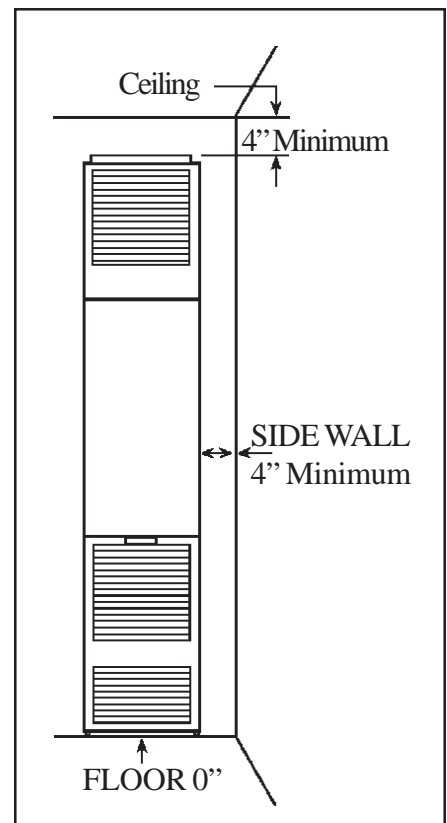

FIGURE 1
15. When installing the furnace allow adequate accessibility clearances for servicing and proper operation. (See Figure 1 – Page 5).
1. The minimum clearance to a side wall is 4". (See Fig. 1). **NOTE:** The unit may be recessed and rest directly against side studs and the inside surface of the rear wall.
2. The minimum clearance to the ceiling is 4". (See Figure 1).
3. The minimum clearance to the floor is 0". (See Figure 1).